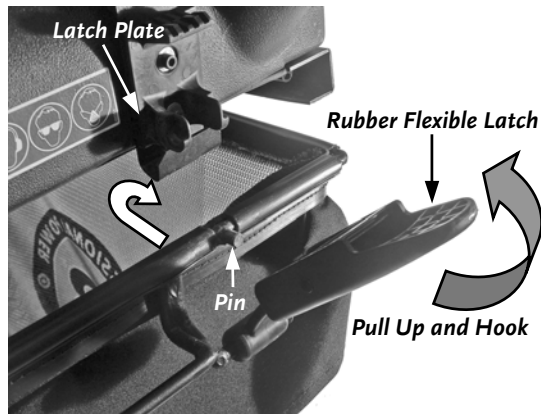

Figure 8b
3. Lift the Debris Bag making sure that the pins on the Frame (**Figure 8b**) go behind the Latch Plates and then lift and hook the two (2) Rubber Flexible Latches on to the Latch Plates on the Top Shield Assembly.